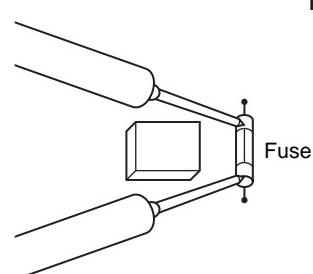

Fig. IV-20
⑥ Continuity of fuse on P.C.B. Ass'y
- Check for continuity using a multimeter as shown in Fig. IV-20.